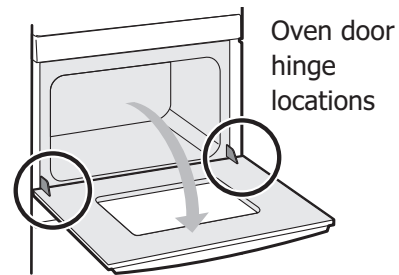

Figure 26: Location of hinges
1. Open oven door completely, horizontal with floor (Figure 26).
3. Fully open the oven door, horizontal with floor (Figure 26).